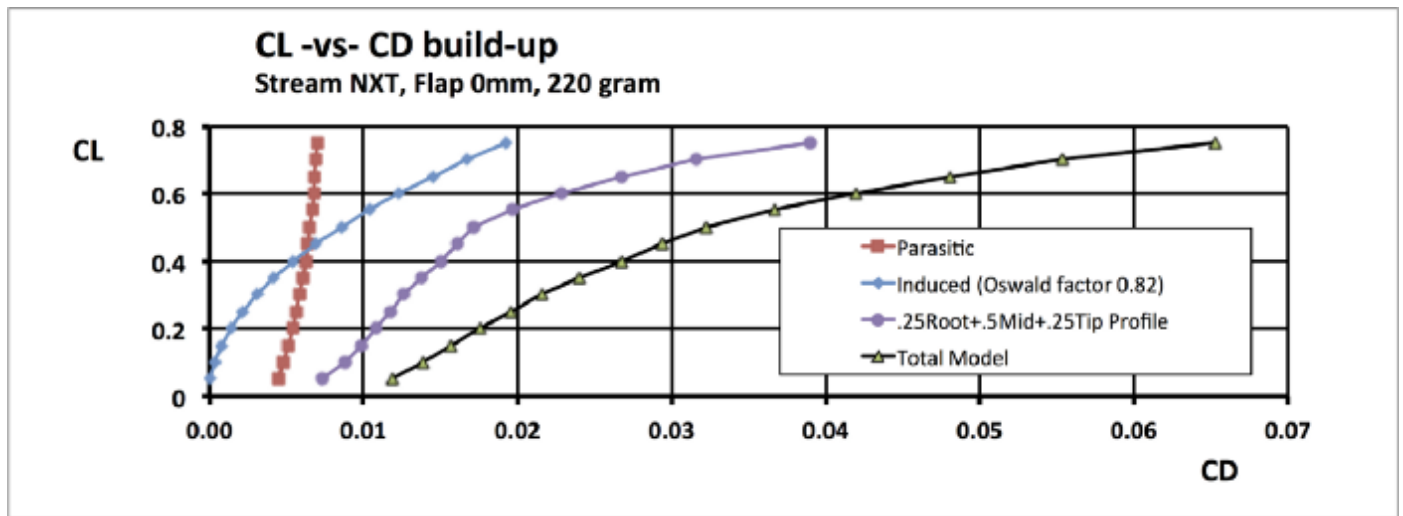

Figure 8: The main drag coefficients, non-dimensionalised with dynamic pressure and wing area.
**Air drag build-up whole model:** Now you need a calculation of the parasitic drag of the fuselage + tail surfaces + protrusions + gaps and a calculation of the induced drag. Figure 8 shows the individual drag